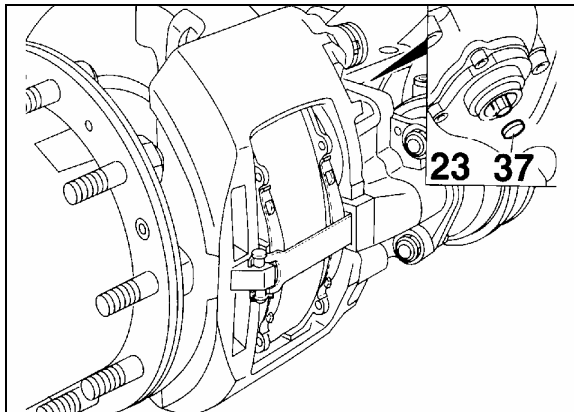

FIGURE 26: ADJUSTER PINION
- Remove cap (37, Fig. 26).
- Using a box wrench (8 mm), turn the adjuster pinion (23, Fig. 26) counterclockwise about 2-3 clicks to increase running clearance. By operating the braking system about 5-10 times (30 PSI or 2 bar), the wrench should turn clockwise in small increments if the adjuster is functioning correctly (Figs. 26 and 27).